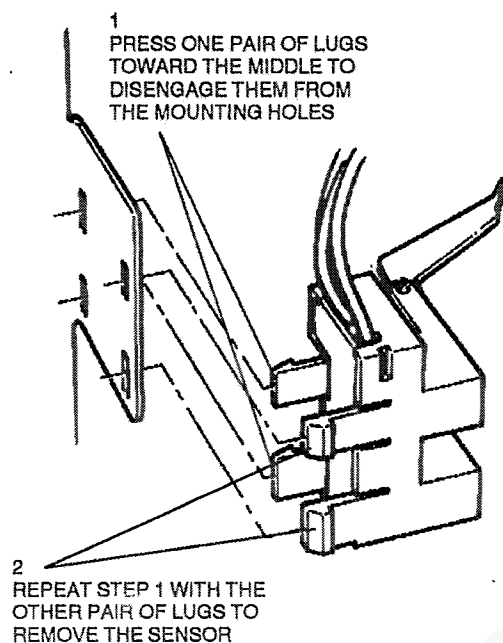

Figure 1. Timing Sensor removal
2. (Figure 1) Remove the timing sensor.